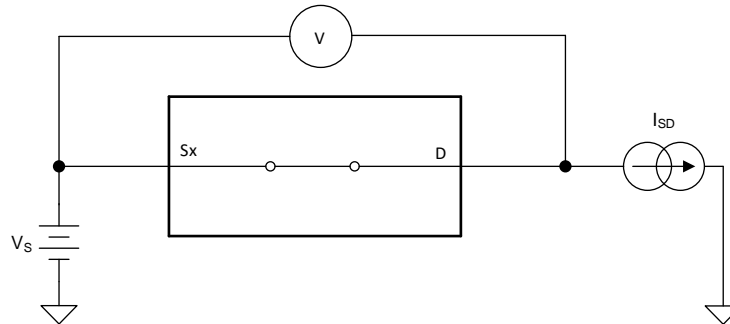

Figure 7. On-Resistance Measurement Setup
The on-resistance of a device is the ohmic resistance between the source (Sx) and drain (D) pins of the device. The on-resistance varies with input voltage and supply voltage. The symbol  $R_{ON}$  is used to denote on-resistance. The measurement setup used to measure  $R_{ON}$  is shown in Figure 7. Voltage (V) and current ( $I_{SD}$ ) are measured using this setup, and  $R_{ON}$  is computed with  $R_{ON} = V / I_{SD}$ :